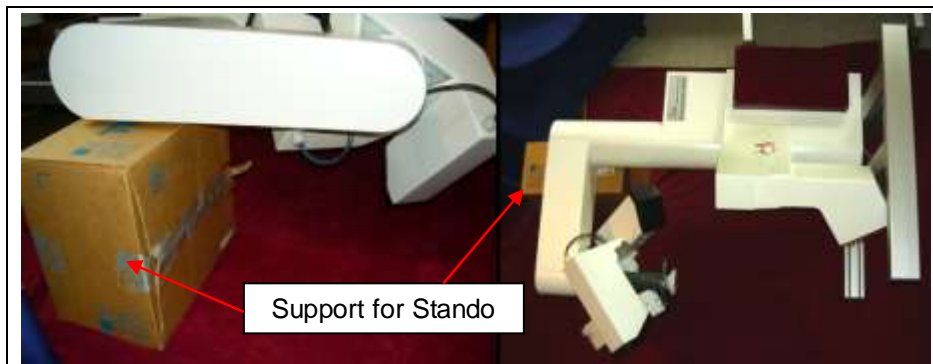

Figure 3: The AG501 lain down on its side with the Stando supported by a cardboard box. The Transmitterholder does not touch the floor.
- **Lay the AG501 on its side with the arm facing upwards. It is important** to put some support beneath the Stando (Figure 3; i.e. a robust cardboard box) so that there is no weight or strain on the Transmitterholder of the AG501.